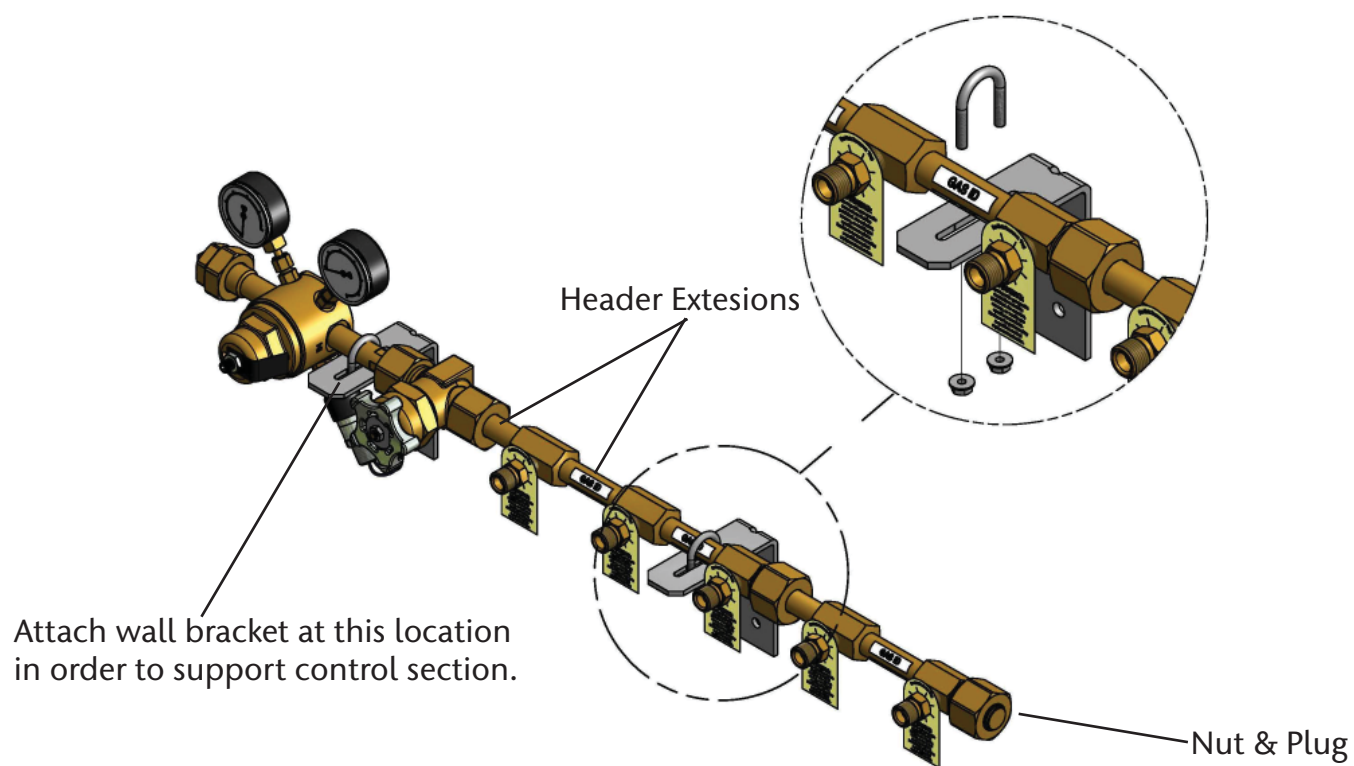

Figure 46
1. Attach master valve to the regulator assembly. Attach appropriate header extension to regulator assembly. Position cylinder inlet connections of each header extension so they are pointing out. Additional header extensions may be attached end to end if required. Install large nut and plug on end of last header extension (Figure 46).
6. One more wall bracket should be installed to support left side of reserve header assembly as shown in Figure 46.
Distance between wall brackets to be determined by installer. Depending upon reserve header configuration, multiple brackets may be required. A bracket is provided for each header segment and should contact header between cylinder connections as shown in Figure 46.